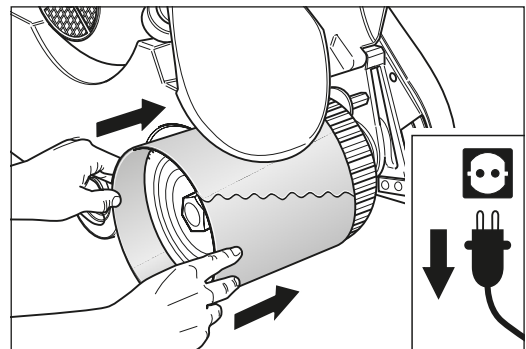

Fig. 39 Push the sanding sleeve over the sanding drum until the abrasive projects equally at both sides of the sanding drum.
- 5 Push the sanding sleeve as far as necessary over the sanding drum until the abrasive projects equally at both sides of the sanding drum (fig. 39).